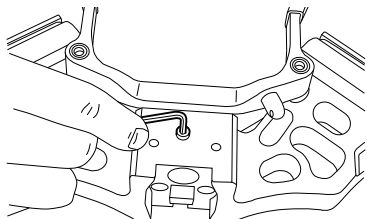

Figure 9
- 15 Re-tighten the locking set screw fully as shown in Figure 9.
- 13 Loosen the riser assembly bolt locking set screw located on the underside of the riser using a 1/8" or 3mm. allen wrench (See Figure 9).